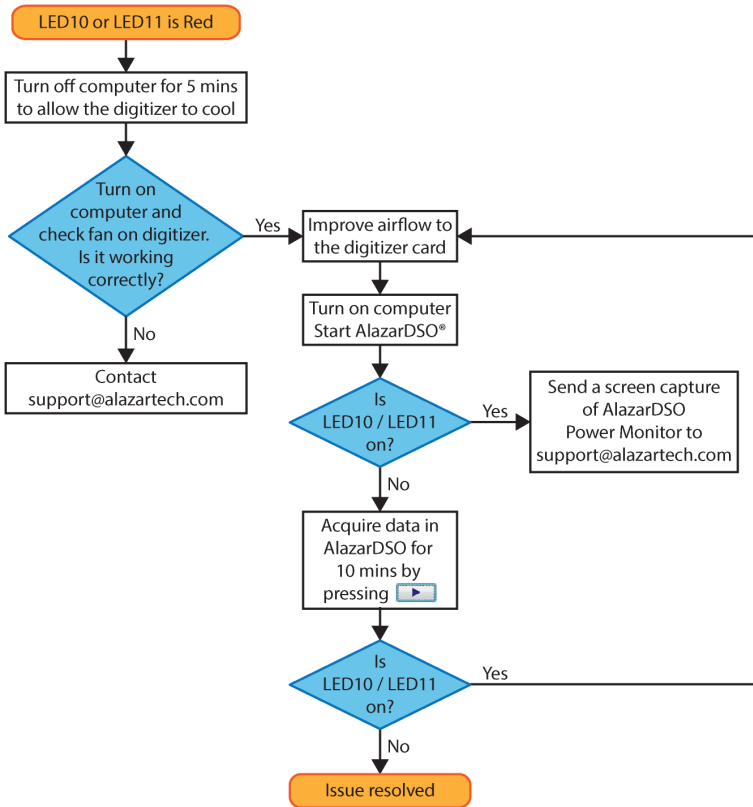

Figure 4 - Flowchart for Power Monitor Status LEDs
- LED10 - This LED being red means that there is an issue with one or more on-board power supplies for the ATS9130. More details are available in the Power Monitor plug-in of AlazarDSO (for Windows) and FrontPanel (for Linux). Refer to *Figure 4 - Flowchart for Power Monitor Status LEDs* for steps to follow if this LED is red.
- LED11 - This LED being red means that there is an issue with one or more on-board power supplies for the ATS9130. More details are available in the Power Monitor plug-in of AlazarDSO (for Windows) and FrontPanel (for Linux). Refer to *Figure 4 - Flowchart for Power Monitor Status LEDs* for steps to follow if this LED is red.